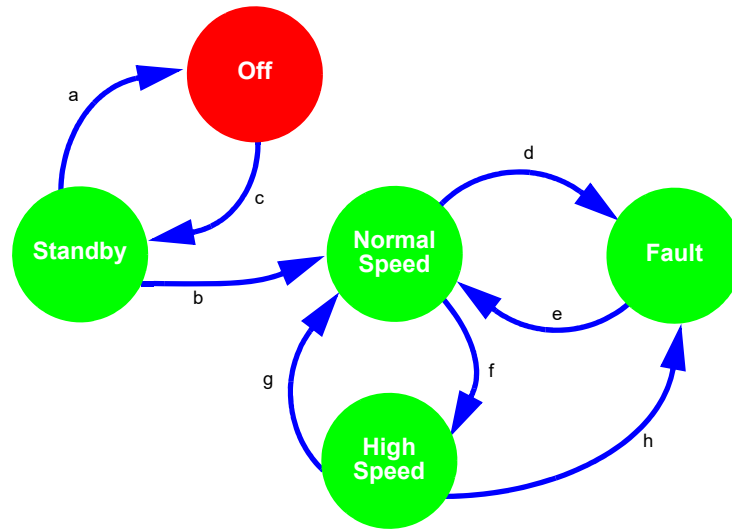
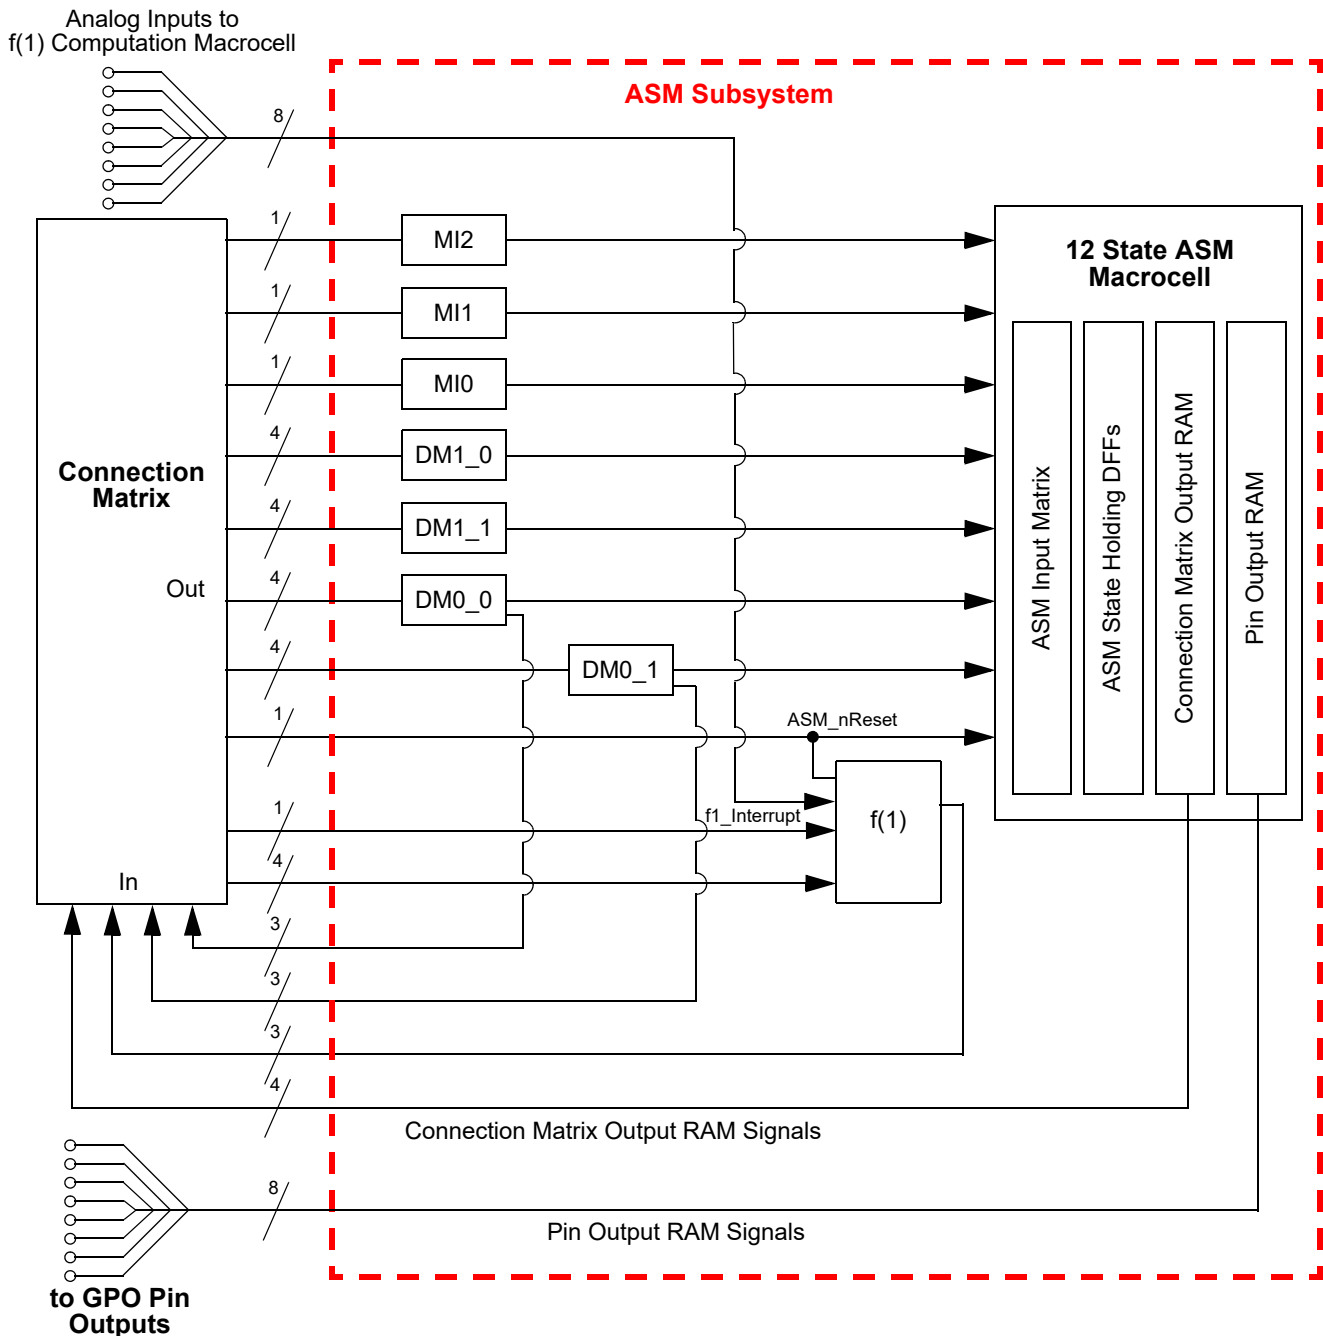

Figure 90: Asynchronous State Machine State Transitions
Figure 91: Connection Matrix to ASM Subsystem
The Asynchronous State Machine (ASM) Subsystem is designed to allow the user to create state machines with between 2 to 12 states. The user has flexibility to define the available states, the available state transitions, and the input signals (a, b, c ...) that will cause transitions from one state to another state, as shown in Figure 90.
- Dynamic Memory (DM) Macrocells – Section 16.
- f(1) Computation Macrocell – Section 17.
- Matrix Interface (MI) Macrocells Section 18.
The ASM Subsystem has a total of 25 digital input signal lines, as shown in Figure 91, which all come from the Connection Matrix outputs. Of these 25 digital input signals, 3 are user selectable inputs going directly from the Connection Matrix to the three Matrix Interface (MI) macrocells. There are a total of 16 input signals that go to the DMx\_x macrocell, four per macrocell. There is 1 ASM\_nReset input that is for driving a state transition in both the ASM macrocell and the f(1) Computation Macrocell to an Initial/Reset state. It is possible to use one macrocell only (MI or DM) for state to state transitions. There are 4 digital input signals coming from the Connection Matrix to the f(1) Computation Macrocell. There is also 1 dedicated Interrupt input signal to the f(1) Computation Macrocell that will halt any active operations and transfer control back to the ASM macrocell.
The ASM Subsystem has a total of 21 digital output signal lines, as shown in Figure 91. There are a total of 4 output signals which go to the Connections Matrix inputs, and from there can be routed to other internal macrocells or pins. The 4 outputs are user defined for each of the possible 12 states. There are a total of 8 output signals which go directly to the 8 GPOs. The 8 outputs are user defined for each of the possible 12 states. Each of the three macrocells, DM0\_0, DM0\_1 and f(1) have three output signals that go to the Connection Matrix.
The GPAK Designer development tools support user designs for the ASM Subsystem at both the physical level and logic level. Figure 90 is a representation of the user design at the logical level, and Figure 91 shows the physical resources inside the various macrocells in the ASM Subsystem. To best utilize this subsystem, the user must develop a logical representation of their desired state machine, as well as a physical mapping of the input and outputs required for the desired functionality.